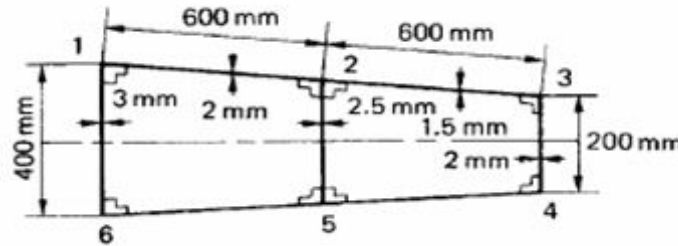

Figure 2
- (b) Part of a wing section is in the form of the two-cell box shown in Figure 2 in which the vertical spars are connected to the wing skin through angle sections, all having a cross-sectional area of 300 mm^2 . Idealize the section into an arrangement of direct stress-carrying booms and shear-stress-only-carrying panels suitable for resisting bending moments in a vertical plane. Position the booms at the spar/skin junctions. [BL: Remember | CO: 1 | Marks: 3]